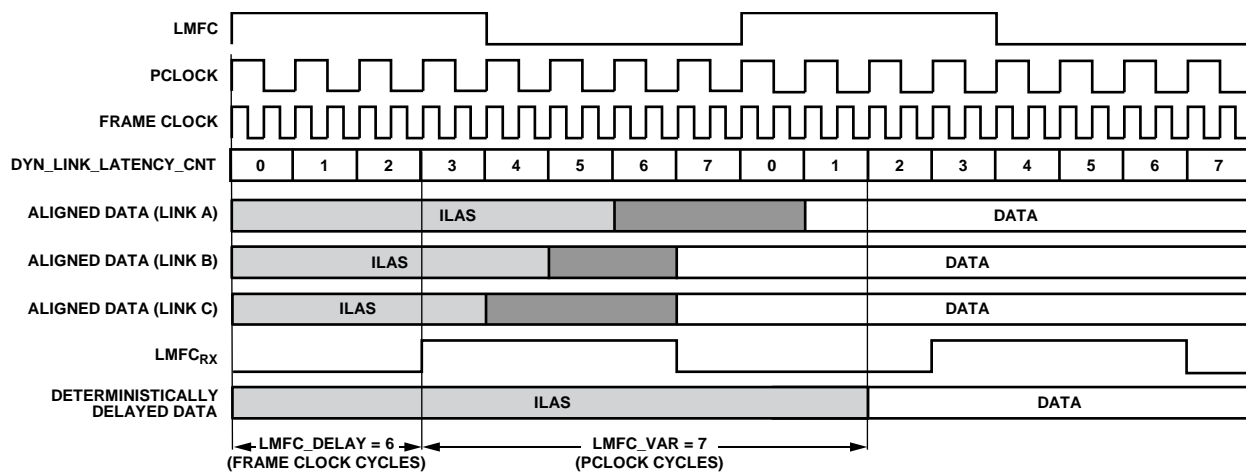

Figure 52. Multilink Synchronization Settings, Derived Method Example
Figure 52 shows how DYN\_LINK\_LATENCY\_0 (Register 0x302) provides a readback showing the delay (in PClock cycles) between LMFCRX and the transition from ILAS to the first data sample. By repeatedly power-cycling and taking this measurement, the minimum and maximum delays across power cycles can be determined and used to calculate LMFCVar and LMFCDeI.
The example shown in Figure 52 is demonstrated in the following steps according to the procedure outlined in the Without Known Delays section. Note that this example is in Subclass 1 to achieve deterministic latency, which has a PClockFactor (frame clock rate/PClockRate) of 2 and uses K = 16; therefore PClocksPerMF = 8.
1. In Figure 52, for Link A, Link B, and Link C, the system containing the AD9152 (including the transmitter) is power cycled and configured 20 times. The AD9152 is configured as described in the Device Setup Guide. Because the point of this exercise is to determine LMFCDeI and LMFCVar, the LMFCDeI is programmed to 0 and DYN\_LINK\_LATENCY\_0 is read from Register 0x302.
The variation in the link latency over the 20 runs is shown in Figure 52 in gray.